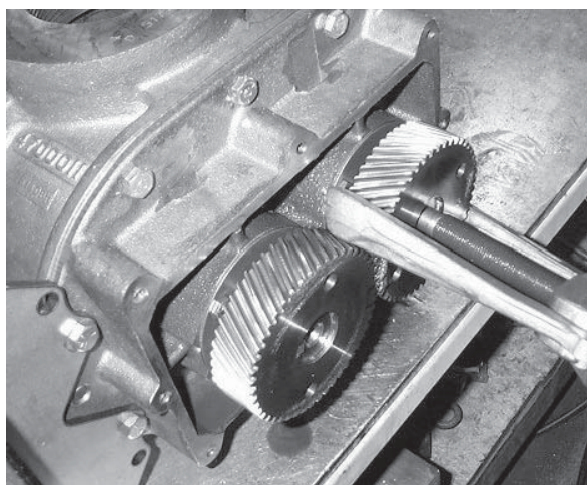

Figure 8-3 – Pulling Driven Gear with Jaw Puller or Bar Puller
6. Use a puller to remove the driven gear. A bar puller or jaw puller (see **Figure 8-3**) can be used.